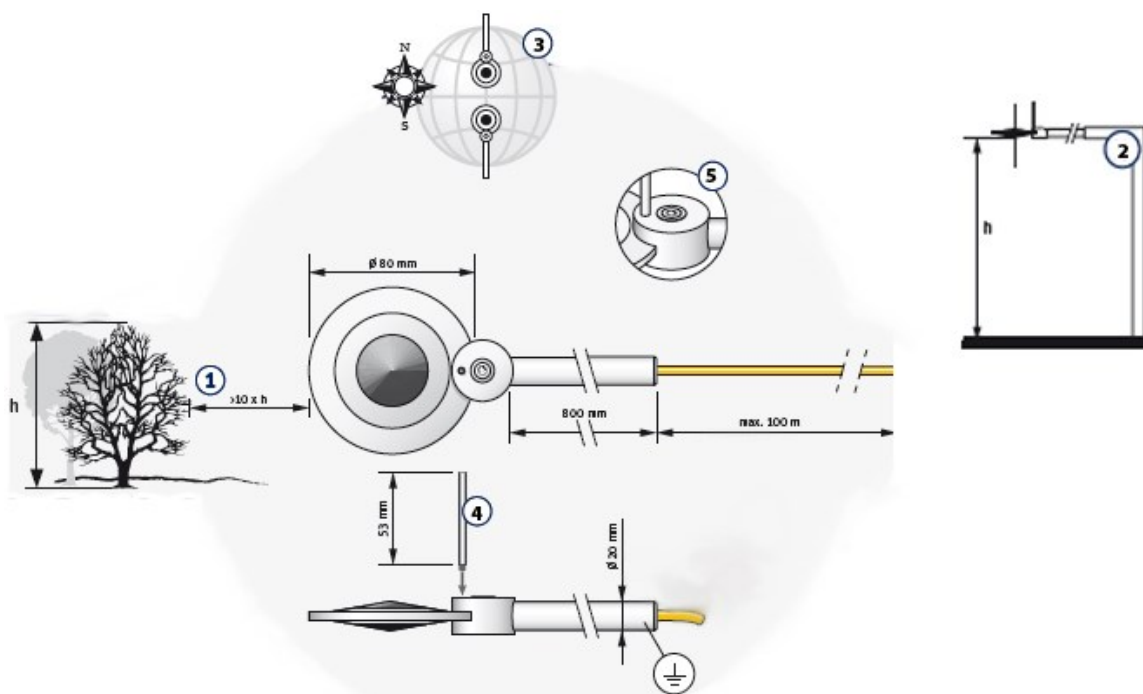

FIGURE 7-1. Siting and mounting diagram for the NR-LITE2
1. Mount the sensor so no shadows or reflections will be cast on it at any time of day from obstructions such as trees, buildings, or the mast or structure on which it is mounted (1 in FIGURE 7-1 (p. 8)).
2. To avoid shading or reflection effects and to promote spatial averaging, the NR-LITE2 should be mounted at least 1.5 m above the ground or crop surface. It is recommended that the NR-LITE2 be mounted to a separate vertical pipe at least 25 ft from any other mounting structures (2 in FIGURE 7-1 (p. 8)).
3. Orient the sensor towards the nearest pole to avoid potential problems from shading (3 in FIGURE 7-1 (p. 8)).
1. Screw in the bird repellent stick, which is shipped with the calibration documentation (4 in FIGURE 7-1 (p. 8)).
4. Perform a coarse levelling of the sensor using the sensor bubble level (FIGURE 7-1 (p. 8)).